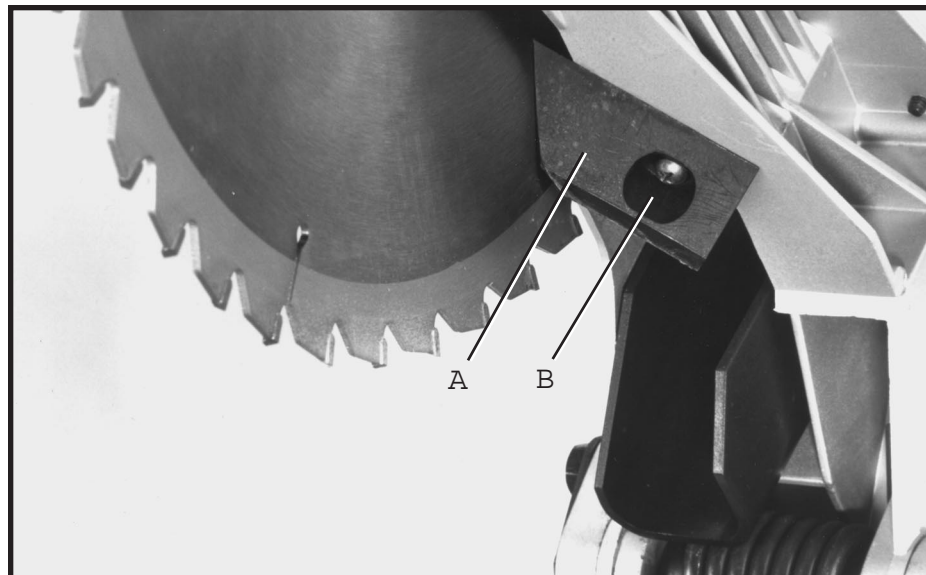

Fig. 29
2. A chip deflector (A) Fig. 29, is supplied to help prevent scrap or out-off pieces from entering the upper blade guard. The chip deflector (A) should be adjusted so it is almost touching the side of the blade by loosening screw (B), adjusting chip deflector (A) and tightening screw (B).